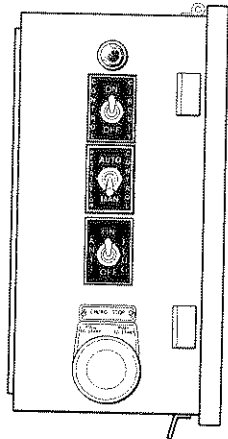

Fig. 33 ANTI-PLUG switch to ON
1. ANTI-PLUG ON Move the CONTROL CIRCUIT and ANTI-PLUG switch to ON (fig. 33). Allow the plunger to attempt to complete its stroke.